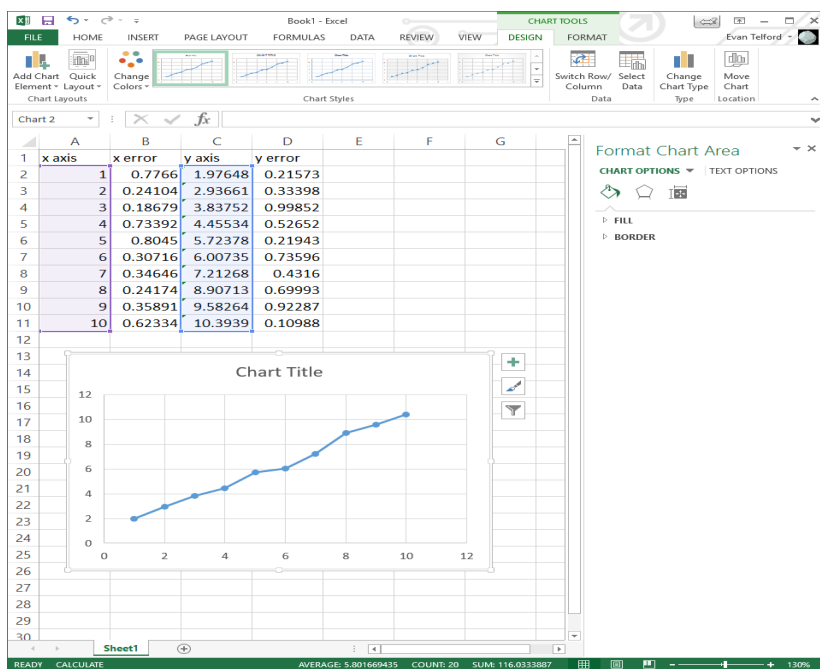

Figure 1: Selecting x and y data and creating a lined scatter plot in excel.
3. Choose the subheading “insert”, then “Scatter”, then “Scatter with straight lines and markers”. Now your x and y data should be plotted without error bars (see figure 1).